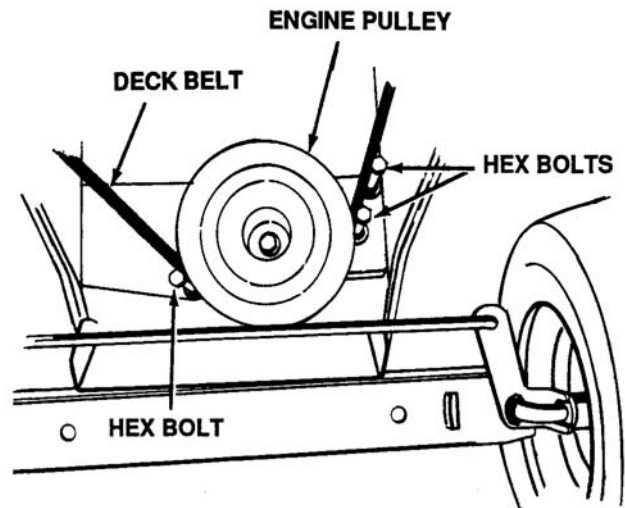

Figure 12-19. Location of Hex Bolts (Belt Keepers)
2. Remove the hex bolts (belt keepers) from engine pulley belt guard. See Figure 12-19.
Units may have either two or three hex bolts. When reassembling, make certain hex bolts are reassembled in the same locations from which they were removed, as shown in Figure 12-19.